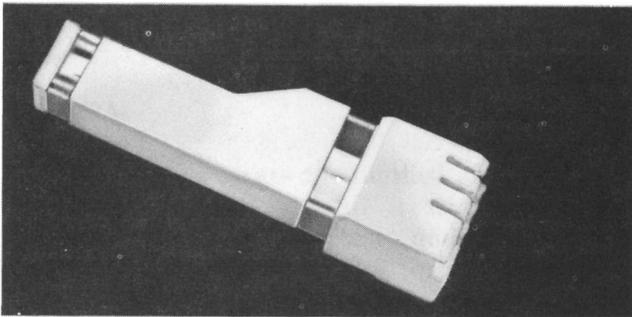

Fig. 1—459-Type Plug (3-Wire Switches)
1.03 The 459-type plug (Fig. 1 and 2) consists of a 2-part, molded shell containing preformed contact springs and, in some cases, a grounding spring. Clamp springs fasten the shell halves together and prevent reopening of the shell after